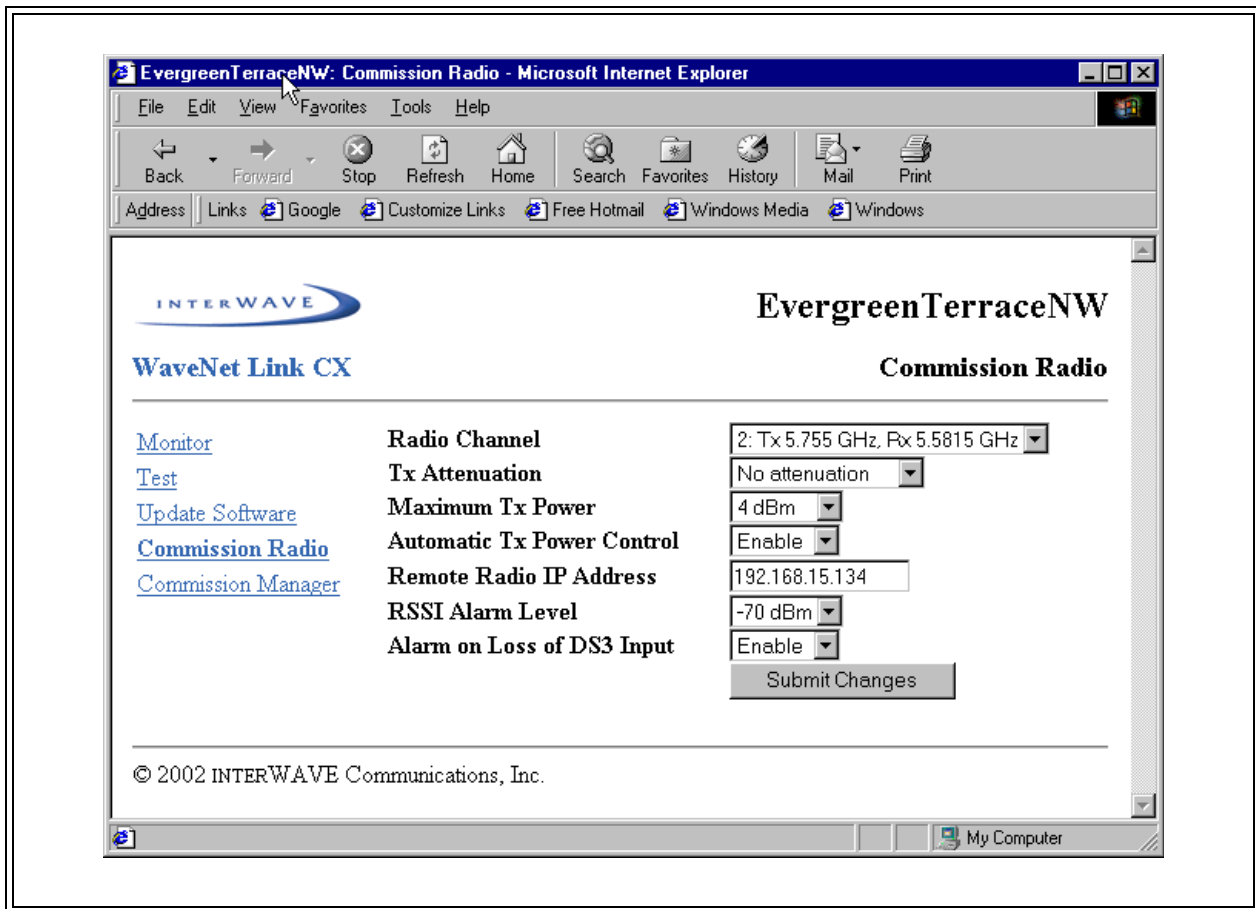

Figure 4-4 Typical 5.8 GHz Link CX Commission Radio Web Page
- 12 On the Monitor page, select the link for the Commission Radio page. The web browser displays the Commission Radio page, similar to the sample shown in Figure 4-4.
- 20 On the Test page, select the link for the Commission Radio page. The web browser again displays the Commission Radio page, similar to the sample shown in Figure 4-4.